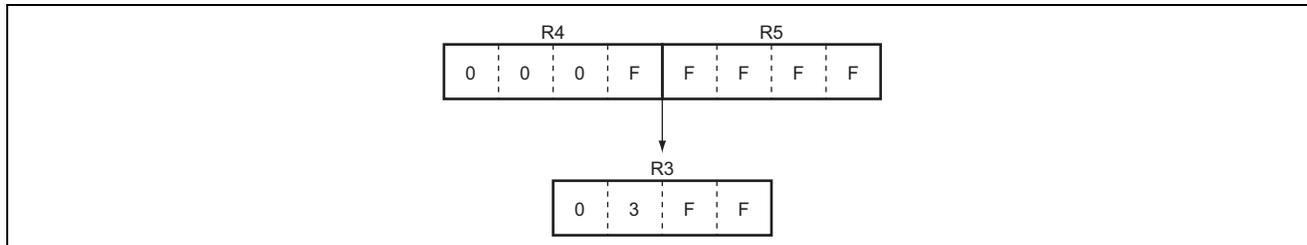

Figure 2 Example when Higher-order Bits are not Used
- Any higher-order bits of the input argument that are unused must be explicitly set to "0", as shown in figure 2. Otherwise, the correct result might not be obtained because undefined data in the higher-order bits is included in computation of the square root.